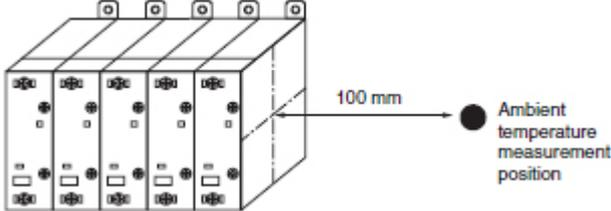
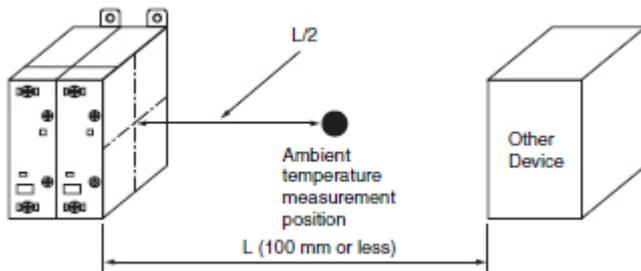
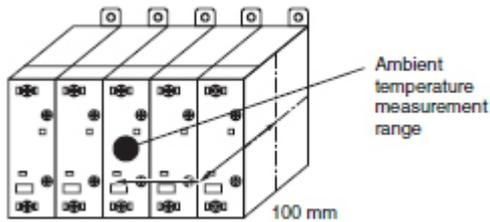

Figure 1: Basic Measurement Position for Ambient Temperature
Figure 2: Measurement Position when a Duct or Other Device is Present
Figure 3: Measurement Position when Side Temperature Cannot be Measured
2. Refer to Figure 1 for the measurement position. If there is a duct or other equipment within the measurement distance of 100 mm, refer to Figure 2. If the side temperature cannot be measured, refer to Figure 3.